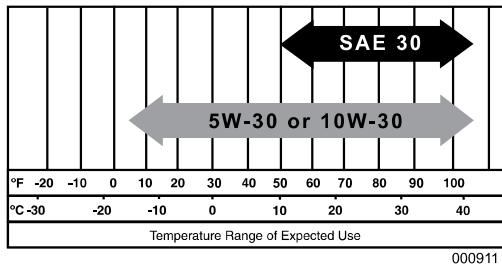

Figure 2-2. Recommended Oil
4. See Figure 2-2. Add recommended engine oil to the bottom of the oil fill hole (A). Only high-quality detergent oils classified for service SJ or higher are recommended. DO NOT use special additives. See Figure 2-2. Climate determines proper engine oil viscosity.